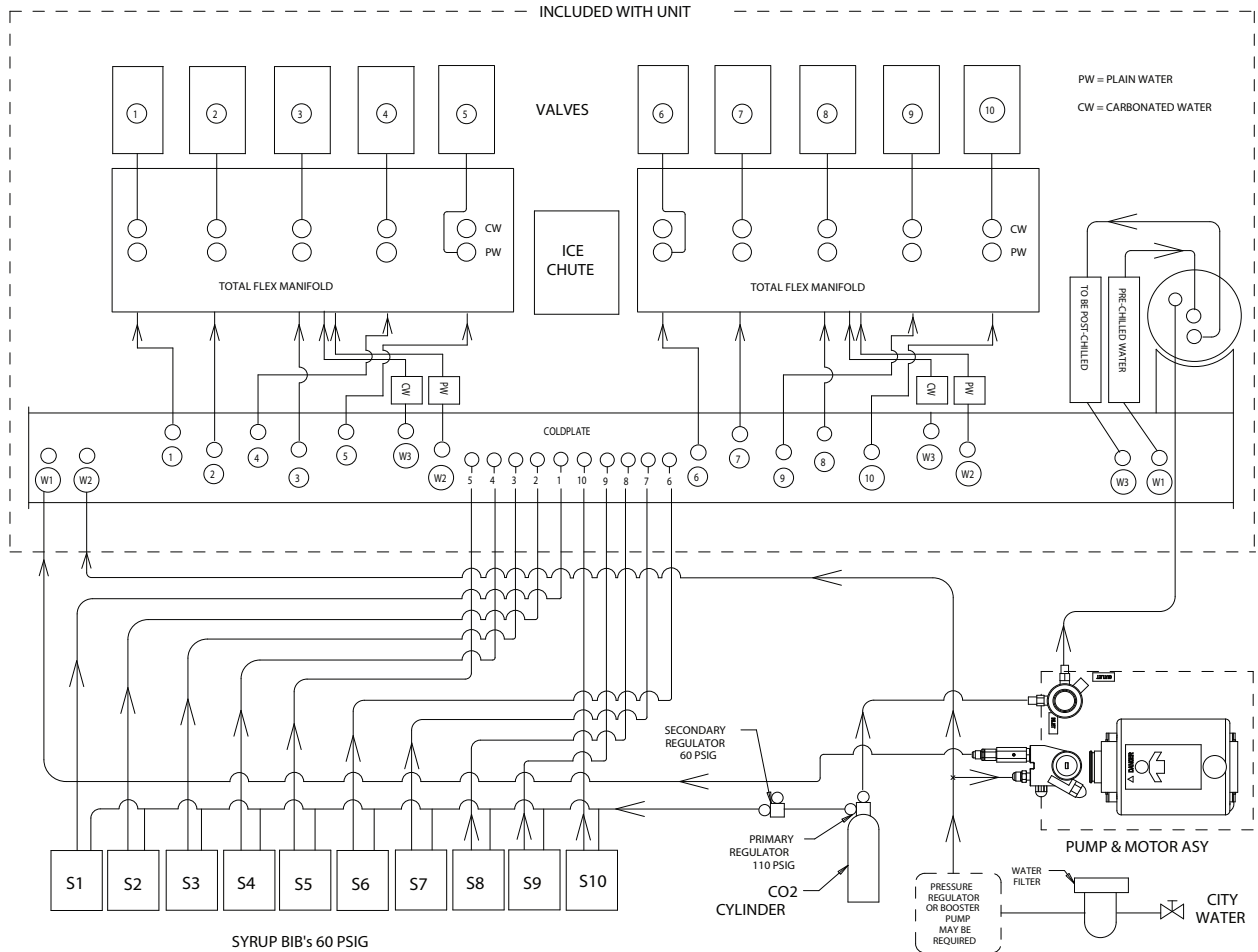

Figure 5.
6. Connect the beverage system product tubes as indicated in applicable Flow Diagram or Figure 5. This work should be done by a qualified service person.
NOTE: See applicable Flow Diagram (see or Figure 5) or Decal on the lower front of the unit for the location of syrup and water connections.